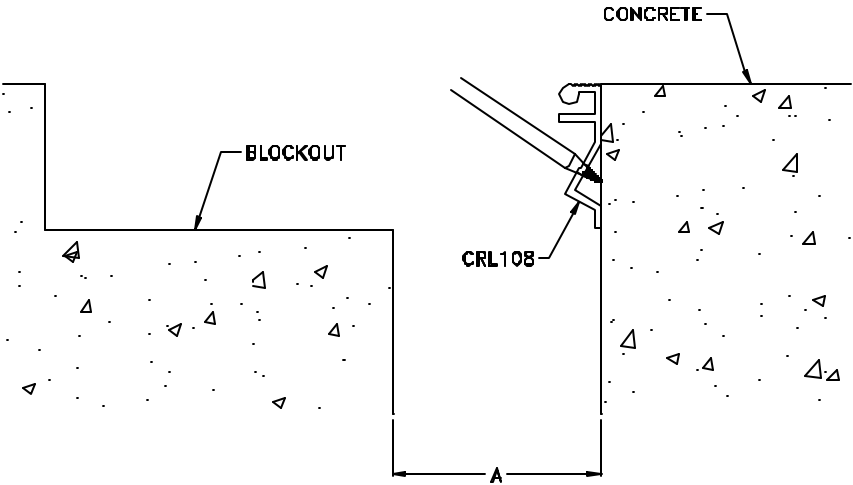

Figure 7
- STEP 11.** Select a Center Plate Support and place it into its installed position in the joint. Using the Center Plate Support as a template, mark the locations for the anchor holes on the concrete (see Figure 7). Ensure that the Center Plate Support is level, plumb, properly aligned and at the proper elevation.